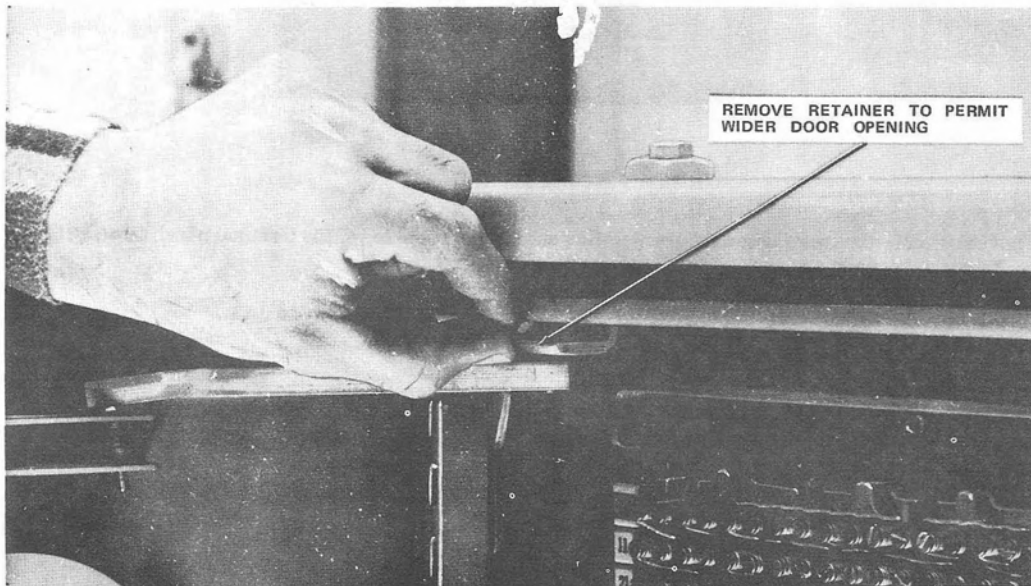

Fig. 1—Removing Pin
3.01 Remove the cabinet from the shipping carton; then, remove the terminal block panel as follows (Fig. 1 through 4) to facilitate installation of cabinet and cable sheath preparation.
1. Open the cabinet doors; then, remove the retainer as shown in Fig. 1 to permit wider door opening for placing terminal blocks. Tie the door in an open position.
6.02 Open the doors of the cabinet; then, remove the pin as shown in Fig. 1 to permit wider door opening for placing a frame equipped with terminal blocks.